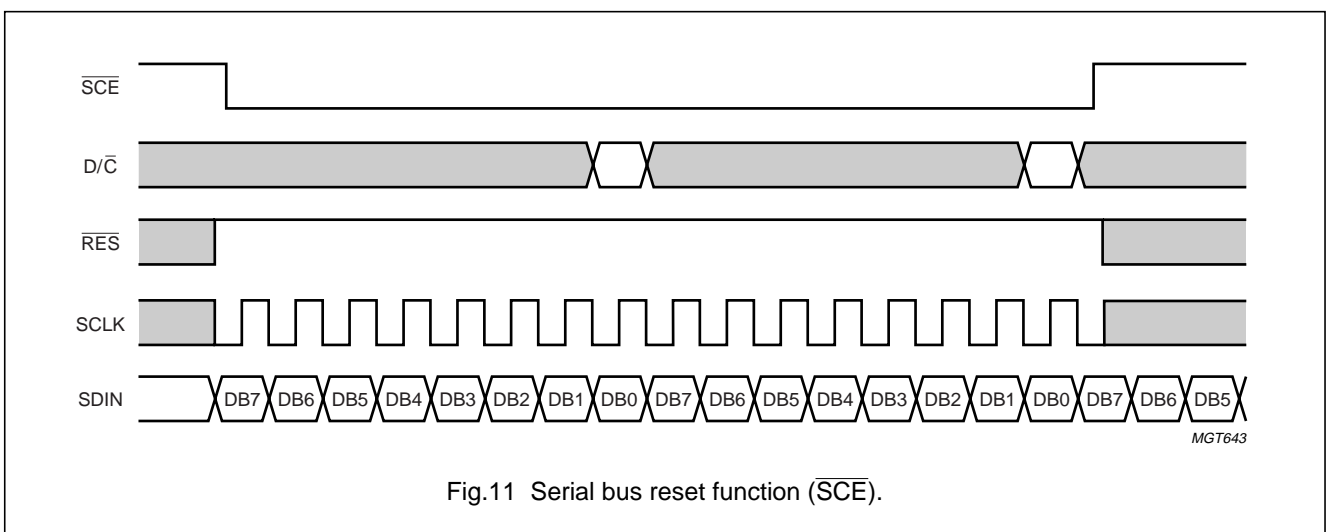

Fig.11 Serial bus reset function ( $\overline{SCE}$ ).
- When  $\overline{SCE}$  is HIGH, SCLK clocks are ignored. During the HIGH time of  $\overline{SCE}$  the serial interface is initialized (see Fig.11).
- If  $\overline{SCE}$  stays LOW after the last bit of a command/data byte, the serial interface expects bit DB7 of the next byte at the next rising edge of SCLK (see Fig.11)